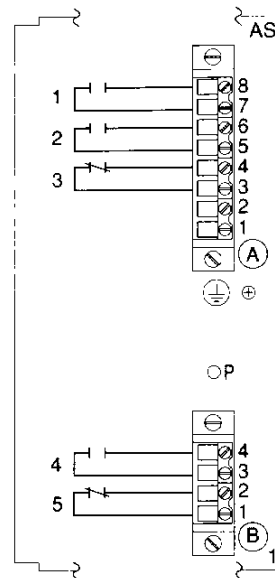

Figure 22: Card 1 wiring
Figure 22 below illustrates the card 1 output contacts in their normal position.
The digital relay has three output relay contacts which operate simultaneously when a phase overcurrent or ground fault is detected. Connect the contacts to the trip circuit, referring to figure 22 and the following contact specifications:
For additional notification of an internal failure, connect the watchdog output relay contacts to an alarm (for example, a light or a bell), referring to figure 22 and the following contact specifications:
- output 4 (figure 22)—terminals 4 and 3 (normally open)
- output 5 (figure 22)—terminals 2 and 1 (normally closed)